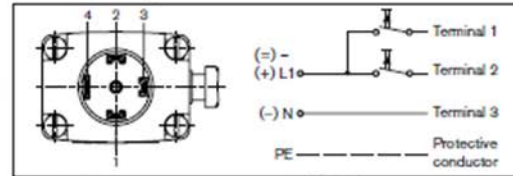

Fig. 4: Electrical connection - pulse model (CF 02)
- Connect as shown in "Fig. 4". Pulse on terminal 1 closes the valve; pulse on terminal 2 opens the valve.